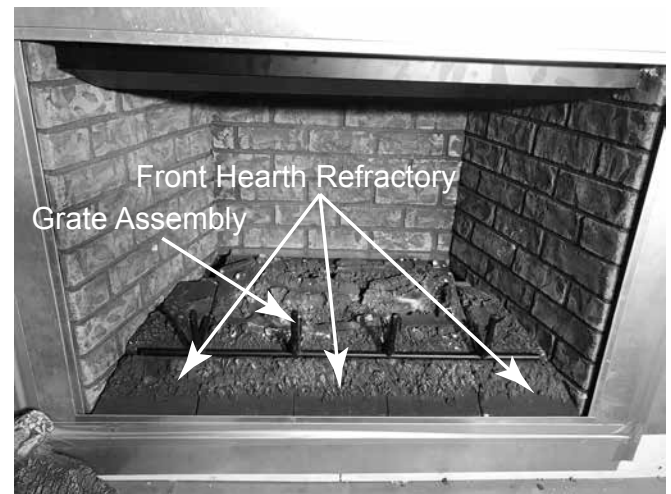

Figure 11.9
- Set Left, Right & Middle Front Hearth Refractories between the front edge of the burner and the front edge of the Legacy appliance. Install Grate Assembly as shown. See Figure 11.9.